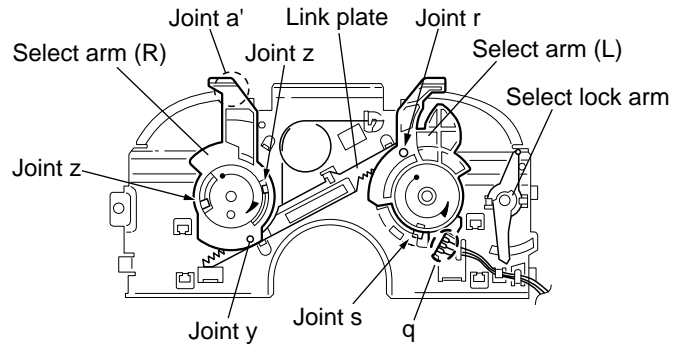

Fig.21
### ■ Removing the select arm (L) / select lock arm (See Fig.21 and 22)
1. Bring up the select arm (L) to release from the link plate (joint r) and turn in the direction of the arrow to release the joint s.
2. Unsolder the wire of the select arm (L) marked **q** if necessary.